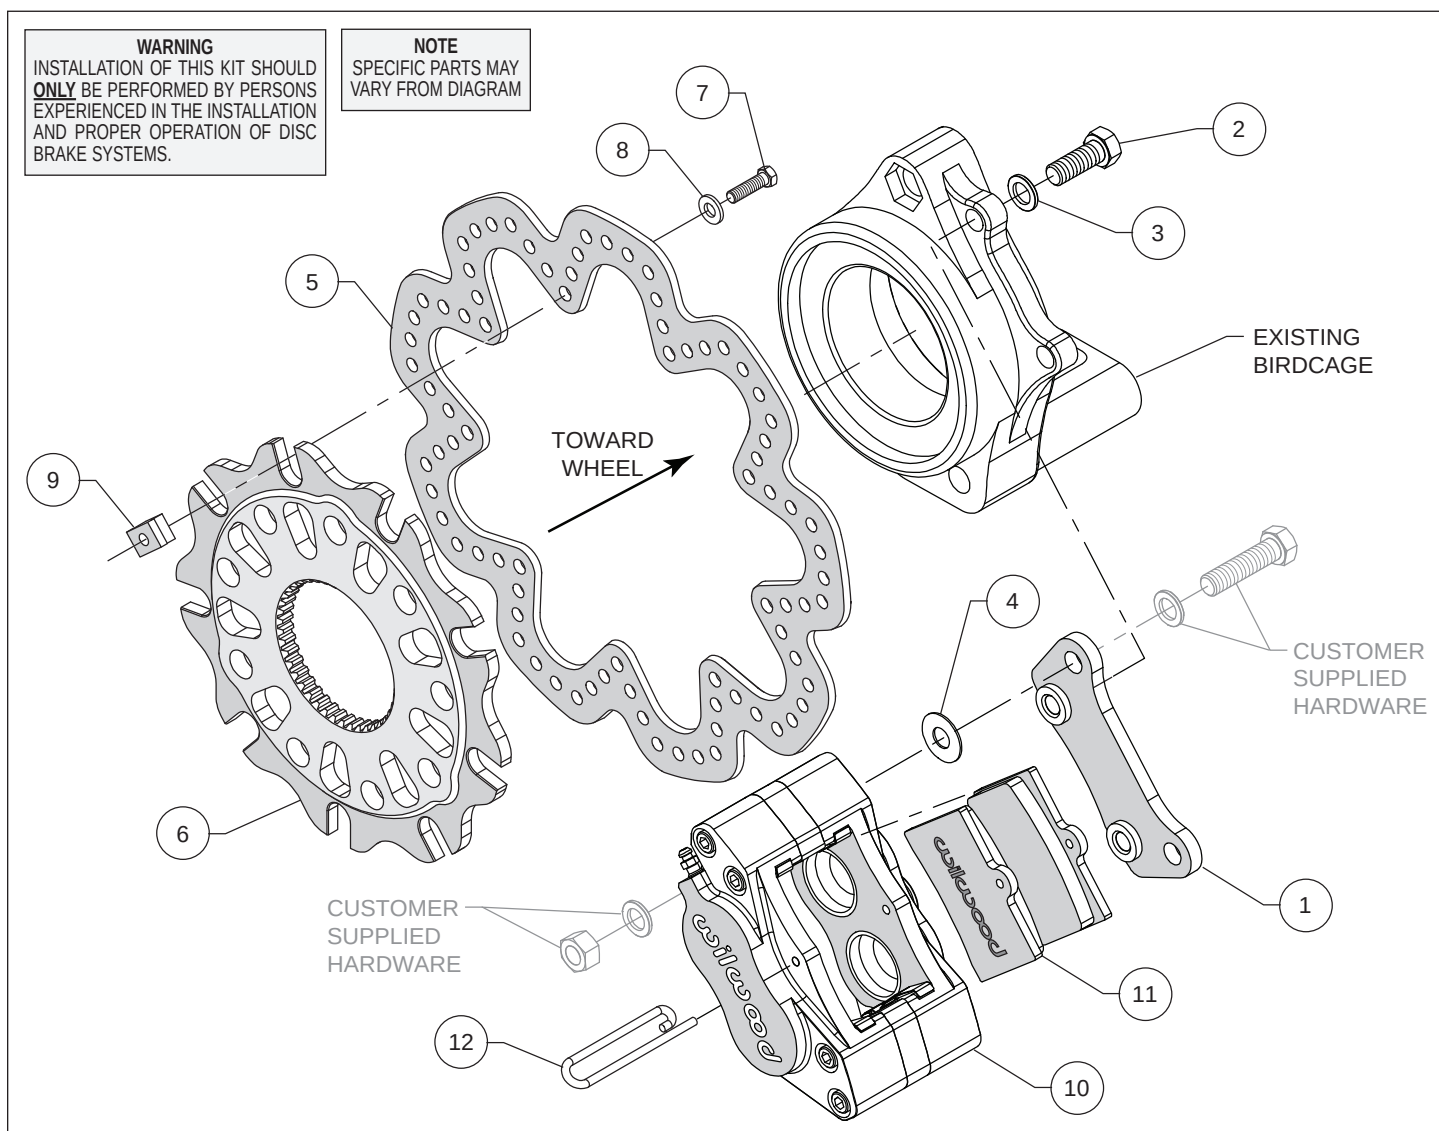
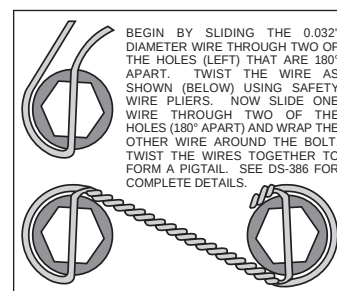

Figure 1. Typical Installation Configuration
Figure 2. Safety Wire Diagram
Assembly Instructions (numbers in parenthesis refer to the parts list and Figure 1 on the preceding pages): **CAUTION:** All mounting bolts must fully engage clinch nuts. Be sure to check that all bolts are either flush or protruding through flanged side of clinch nut.
- Orient the caliper mount bracket (1) as shown in Figure 1, and install using bolts (2), and washers (3). Ensure that the flanged heads of the clinch nuts in the bracket are facing outboard. Temporarily tighten the mounting bolts. **NOTE:** The bracket must fit squarely against the mount bosses on the birdcage. Inspect for interference from machining ridges, burrs, etc. Remove bolts one at a time, apply red Loctite® 271 to the threads and torque to 40 ft-lb. For an added measure of security, the bolts may be safety wired using standard 0.032 inch diameter stainless steel safety wire as shown in Figure 2. Please refer to Wilwood's data sheet DS-386 (available at www.wilwood.com/Pdf/DataSheets/ds386.pdf) for complete safety wire installation instructions.
- Mount the rotor adapter (6) with the notched t-nut slots facing away from the rotor (5) using bolts (7), washers (8), and t-nuts (9) as shown in Figure 1. Apply red Loctite® 271 to the bolt threads before installing. Finger tighten. After all t-nuts have been installed, torque bolts in an alternating sequence to 120 in-lb. Please refer to Wilwood's data sheet DS-669 (available at www.wilwood.com/Pdf/DataSheets/ds669.pdf) for complete t-nut bolt kit installation instructions.
- Mount the caliper (10) onto the bracket (1) using customer supplied hardware, Figure 1. Initially place one .035" thick shim (4) on each bolt between the caliper and bracket as shown in Figure 1. Temporarily tighten the bolts/nuts and view the rotor through the top opening of the caliper. The rotor should be centered in the caliper. If not, adjust by adding or subtracting shims (4) between the bracket and the caliper mount lugs. Once the caliper alignment is correct, torque customer supplied mounting hardware as required. Use of red Loctite® 271 is recommended.
- Remove the pad pin retainer (12) from the caliper (10). Slide the brake pads (11) into place. They should install easily without interference. Reinstall the pad pin retainer.